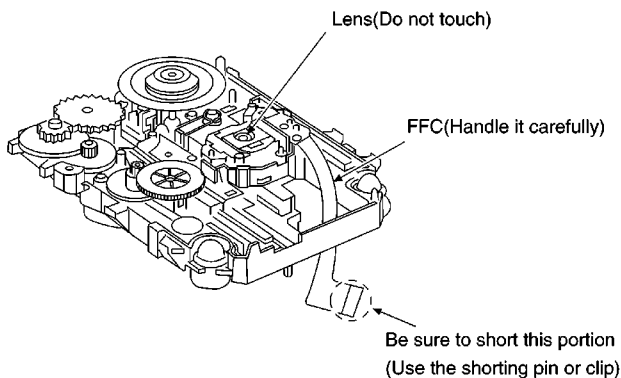

Fig. 3-1.
2. To prevent the breakdown of the laser diode, an anti-static shorting pin is inserted into the flexible board (FFC board). When removing or connecting the shorting pin, finish the job in as short time as possible. Refer to Fig. 3-1.